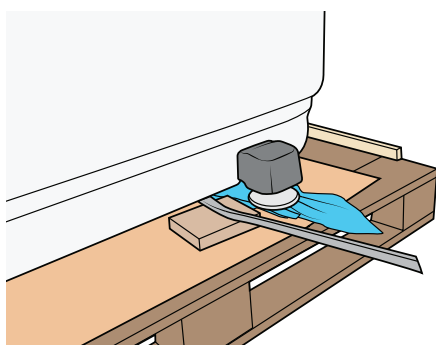

Figure 15
2. For better sliding, lift up the other side (use a crowbar) and place a towel under the foot opposite to the pivot foot. See Figure 15.